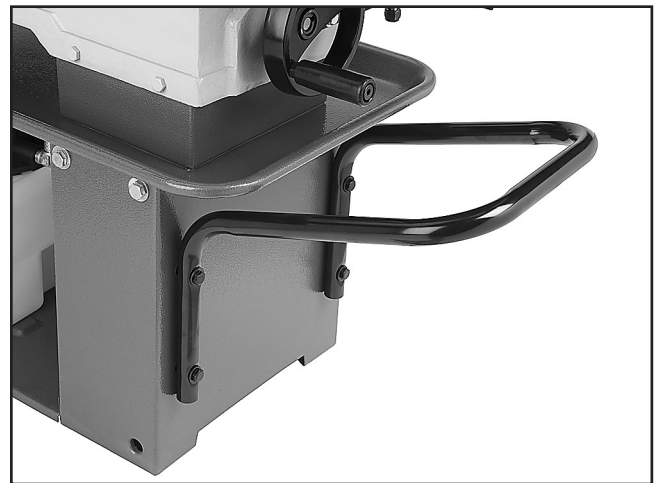

Figure 14. Handle installed.
1. Attach the handle to the cabinet with hex bolts, washers, and hex nuts as shown in **Figure 14**.